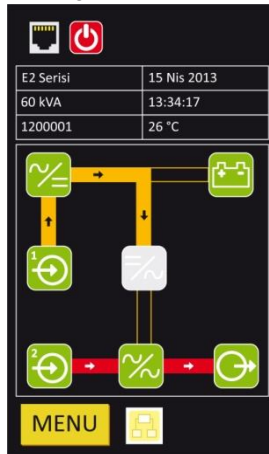

Figure-47 Inverter Start
- After rectifier unit starts to run, inverter unit will start to run automatically. Mimic diagram will be seen as figure-47.